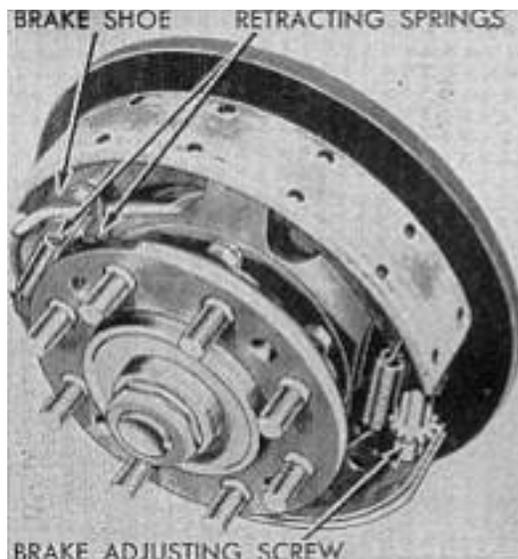

Fig. F071 - Model 8N brake and rear wheel hub. Hub is splined to wheel axle shaft.
90. **WHEEL AXLE SHAFT AND BEARINGS.** Jack up rear end of tractor and remove the rear wheel and tire assembly. Remove brake drum as shown in Fig. F071 and use a suitable puller to remove wheel hub. Remove bearing retainer stud nuts and pull retainer and brake assembly off axle housing. Pull axle shaft out of axle housing. Wheel axle shaft bearings can be renewed at this time. Reinstall parts in reverse order of removal. Adjust wheel bearings as outlined in paragraph 88A. Tighten axle shaft nut using 450 foot pounds torque and install lock ring. Refer also to Fig. F0-70.
94. Jack up rear end of tractor and remove rear wheels. Remove four brake drum screws and pull drum off shaft (Fig. F071). Remove brake shoe retracting springs and shoes. Reinstall brakes, noting that two brake shoe retracting springs are used on left brake and only one on right brake.